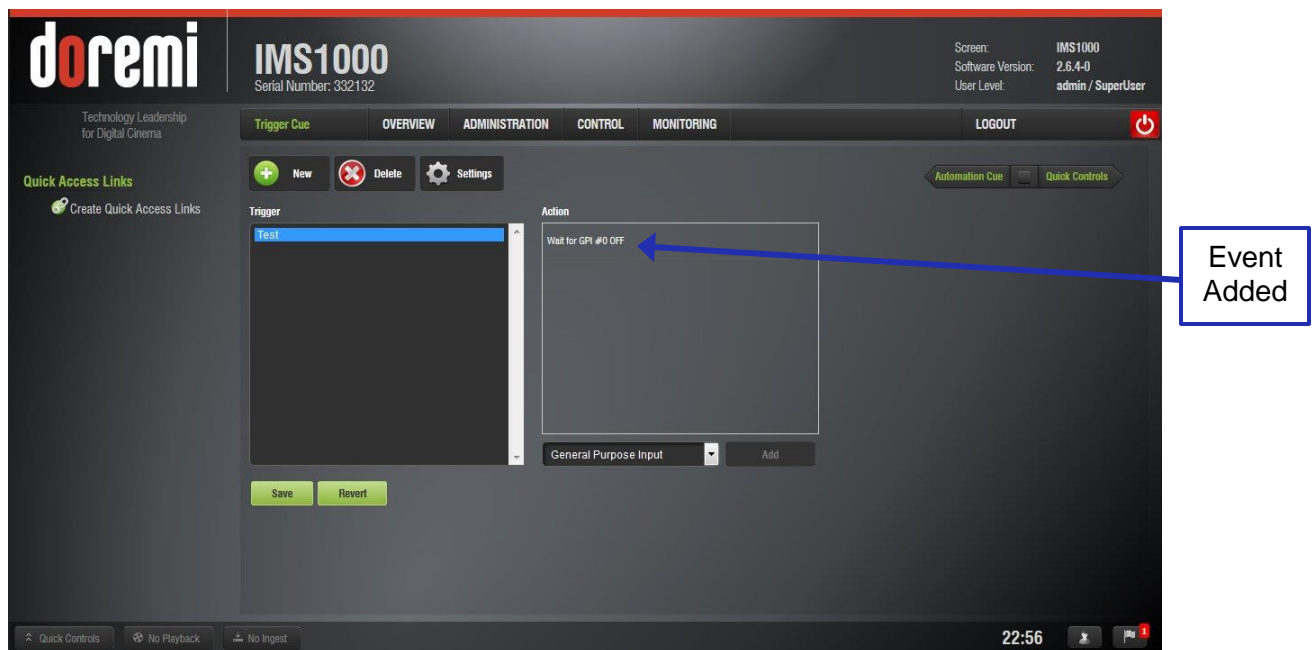

Figure 152: GPI Event Added
- The connected GPI event will then appear in the right part of the GUI (Figure 152).